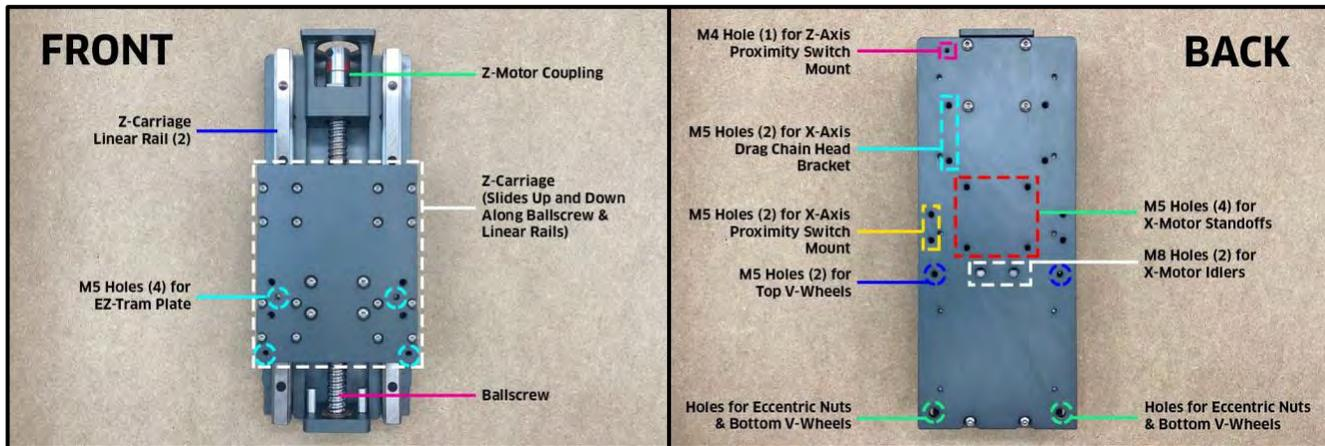

Figure 6
1. Take a minute to familiarize yourself with the front and back of the HDZ. See *Fig. 6*.